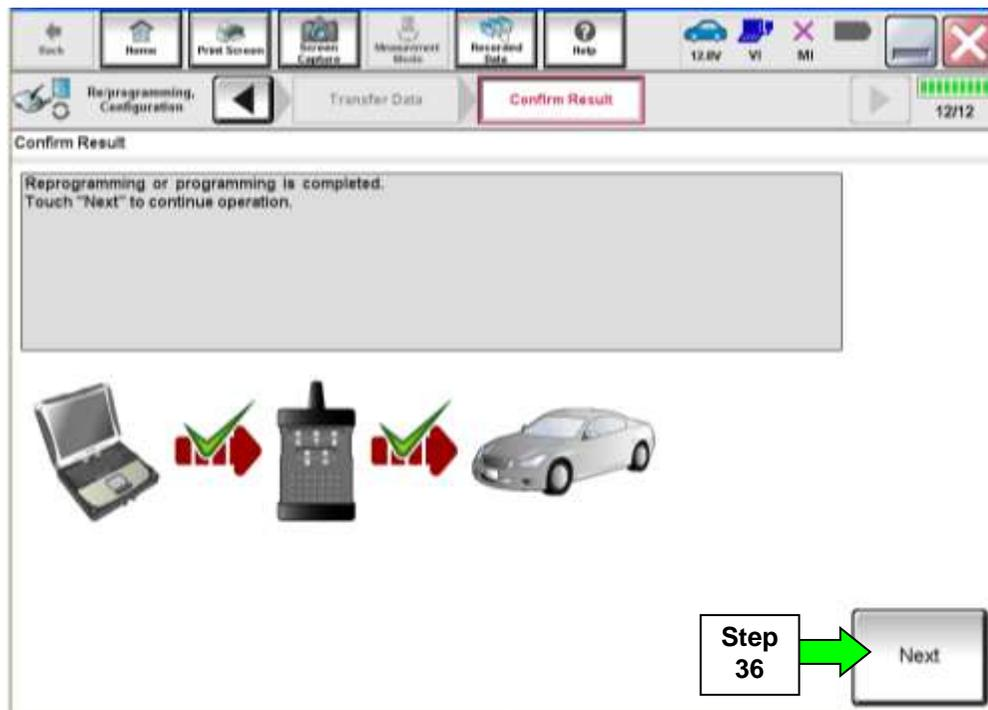

Figure 21
35. When the screen in Figure 21 displays, the reprogramming is complete.
NOTE: If the screen in Figure 21 does not display (indicating that reprogramming did not complete), refer to the information on the next page.